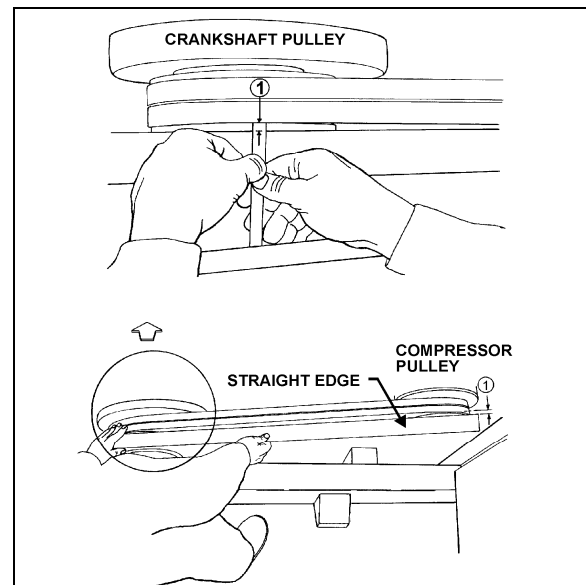

FIGURE 24: COMPRESSOR ALIGNMENT 22040
2. Check the distance between each extremity of straight edge (1, Fig. 24) and drive belt. If they are different, loosen the pillow block compressor bolts and with a hammer, knock compressor pillow block to slide it, in order to obtain the same distance; then tighten bolts.